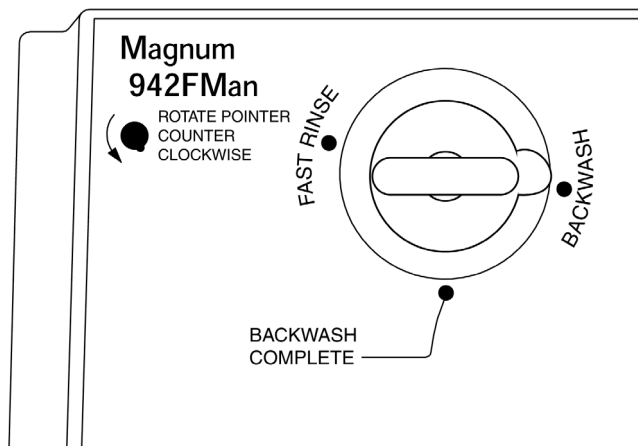

Figure 5.6
1. Move the indicator knob COUNTERCLOCKWISE from the **Backwash Complete** position to the center of the **Backwash** (Figure 5.6) position. DO NOT turn the knob clockwise. The knob should remain in the **Backwash** position for 5 to 20 minutes\*, or until the water runs clear at the drain.